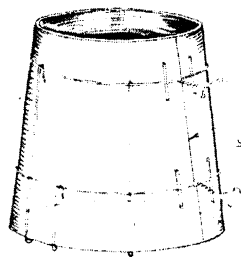

FIG. 2
2. Prepare the metal for soldering as shown in Fig. 2. Use No. 16 annealed iron binding wire.